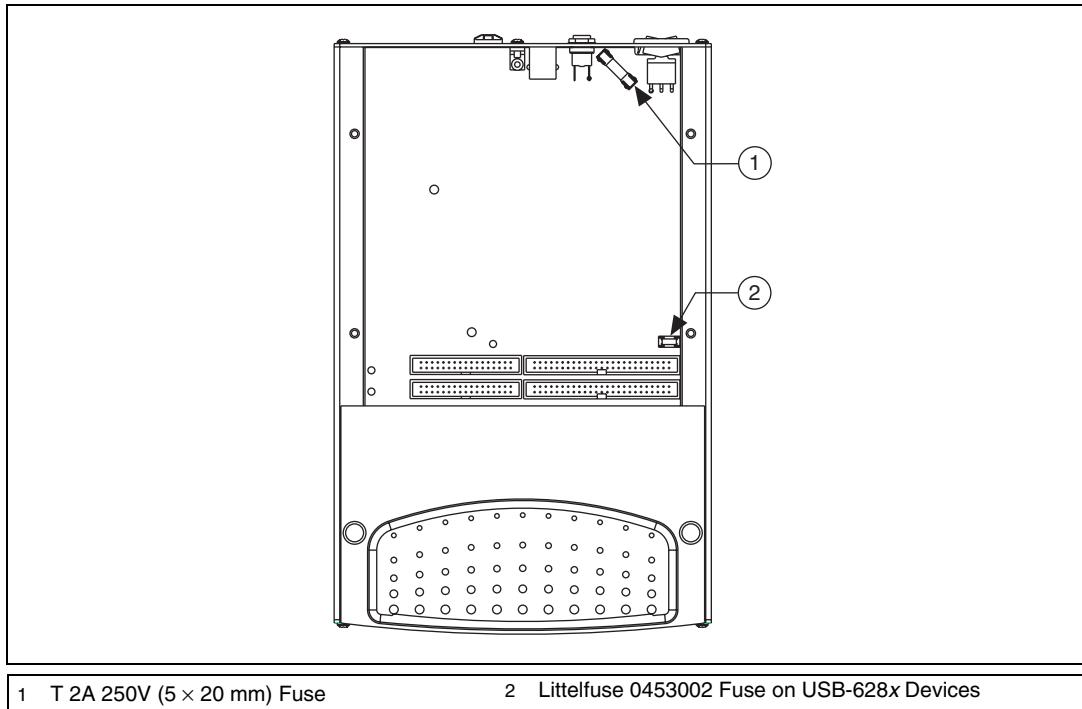

Figure 3-5. USB-62xx Screw Terminal Fuse Locations
4. Replace the broken fuse while referring to Figure 3-5 for the fuse locations.